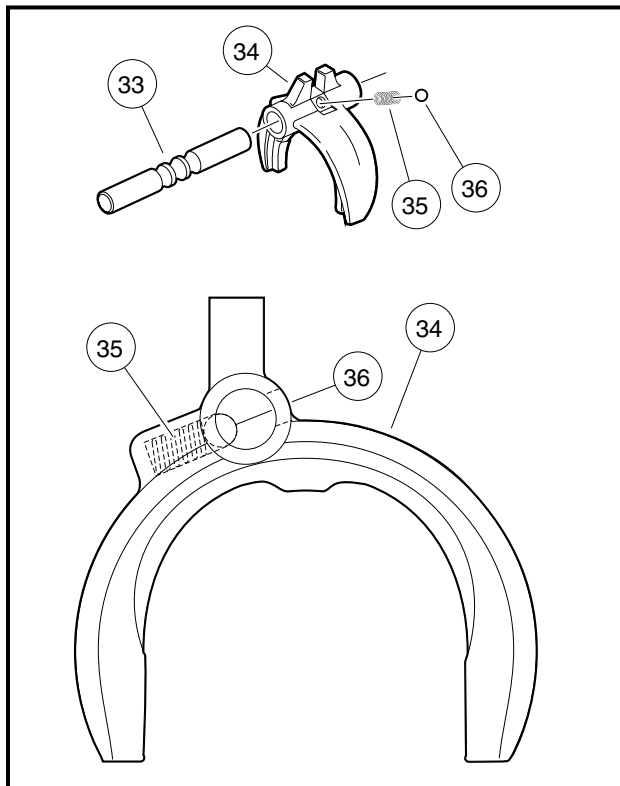

Figure 19-33 Align Spring and Ball and Insert
1. Install the spring (35) and ball (36) into the shifter fork (34) as shown (**Figure 19-33, Page 19-18**).